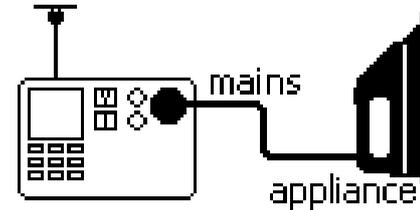
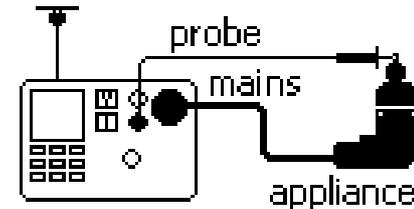

Figure 7. Substitute Leakage Test Connections CI. I
Figure 8. Substitute Leakage Test Connections CI. II
- Connect the appliance and the test probe as indicated on the display, see fig. 7 and fig. 8.